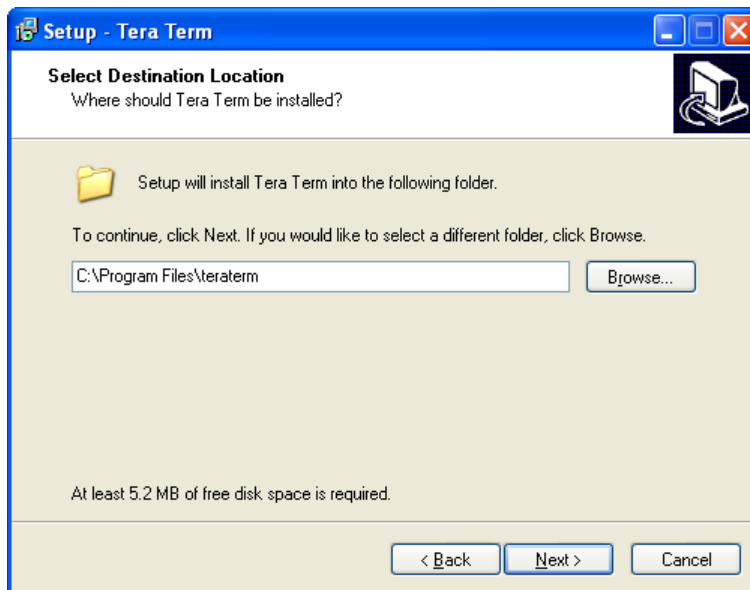

Figure 6-15: Destination Location Screen
9. Select a destination, then click **N**ext (Figure 6-15).